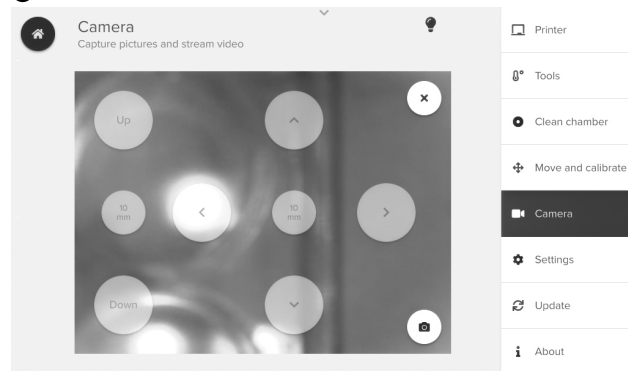

Figure 7: (A) Camera display overview on the Utilities menu. (B) Movement commands overlaid with the camera display.
7. Press the movement commands icon on the top-right side of the video feed to display the movement arrows (Figure 7).